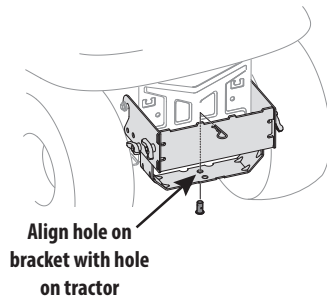

Figure 8
2. Install the clevis pin (710-0309A) from hardware pack 689-02364 into the tractor's hitch and secure with a cotter pin (714-0117). See Figure 8.